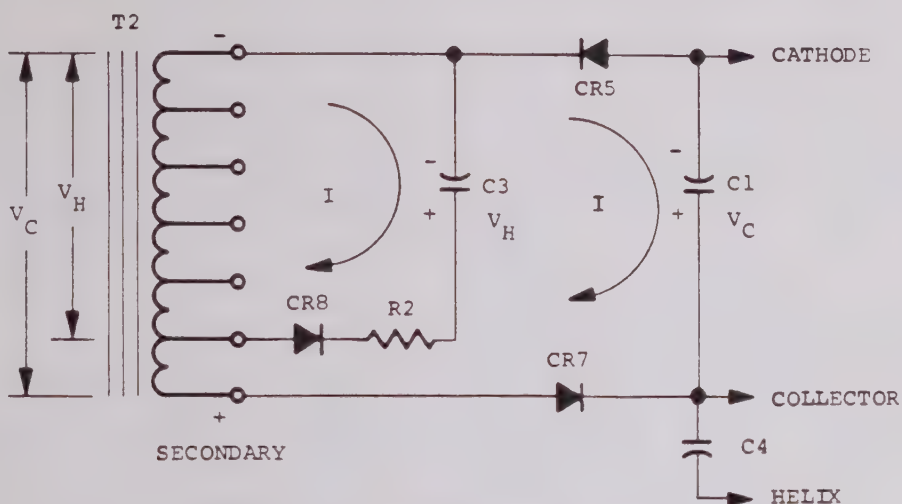
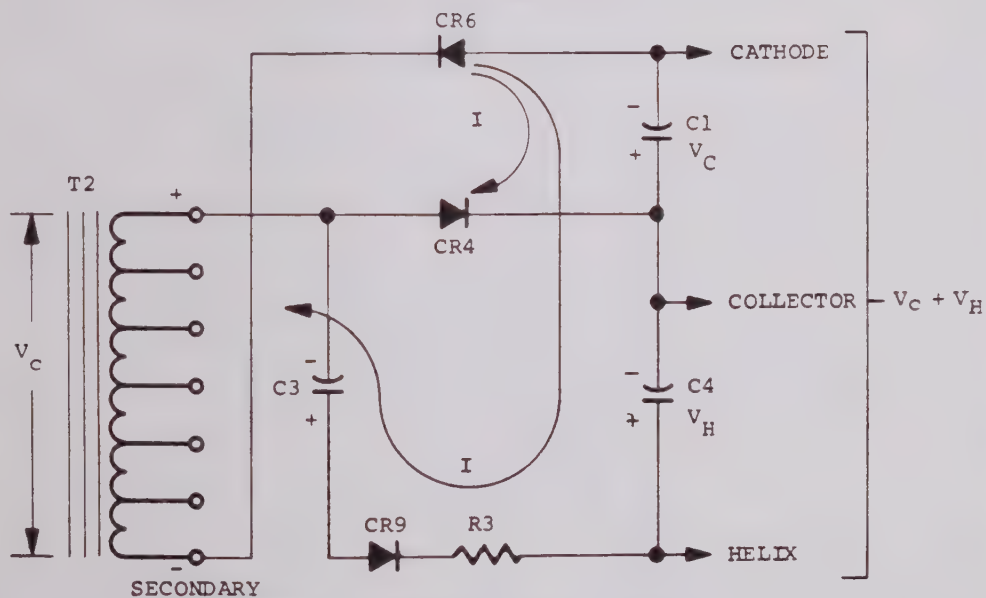

FIGURE 5-9A NEGATIVE HALF CYCLE
FIGURE 5-9B POSITIVE HALF CYCLE
5.2.6.5 Helix Supply. The helix and collector supplies share a number of components. A simplified schematic is shown in Figure 5-9. The circuit for the helix supply is a modified form of a cascade doubler. During the negative portion of the AC input cycle when the top of the transformer is negative (Figure 5-9A) diode CR8 is forward biased and C3 charges to peak voltage  $V_h$ . During the next half cycle (Figure 5-9B) CR8 is reverse biased and acts like an open circuit. The voltage  $V_c$  on the output of the transformer and the charge ( $V_h$ ) of C3 are additive so that C1 and C4 are charged to  $V_c + V_h$  through diode CR6 and CR9. Note that the helix to cathode voltage is  $V_c + V_h$  and that the charge on capacitor C4 is  $V_h$ . Resistor R7 is a bleeder for C2, C5 and C3, C6. L1, C2, C3, C5, C6 in conjunction with C1 and C4 form a Pi filter to remove the 10 kHz, 20 kHz, and higher frequency ripple components.